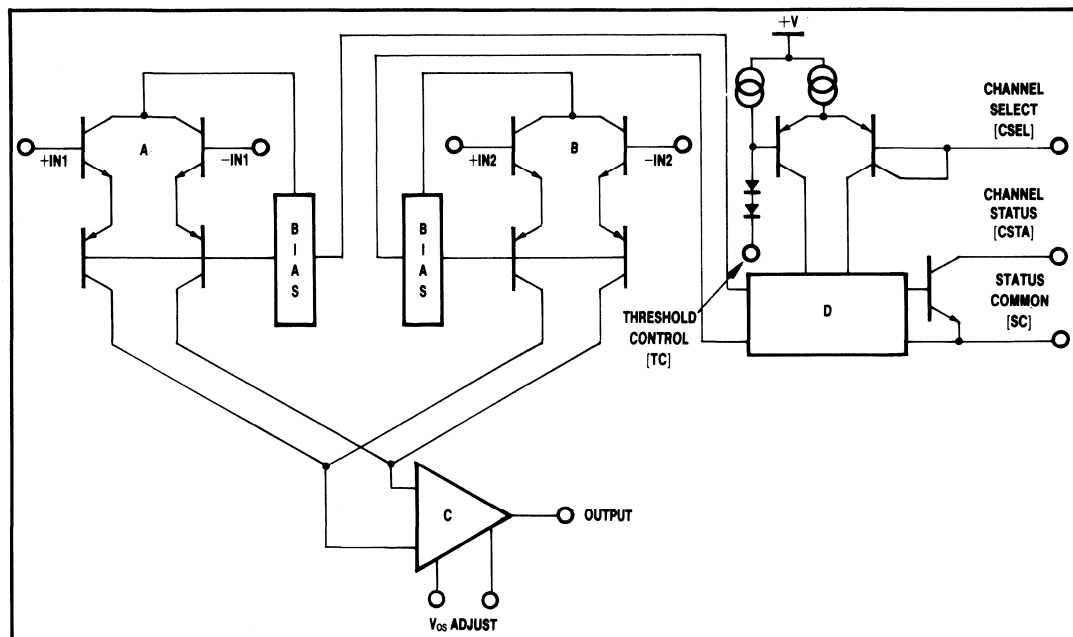

FIGURE 1. OPA 201 Simplified Schematic.
A simplified schematic of the OPA201 Swop Amp is shown in Figure 1. The circuit has four main parts: (A) input stage 1, (B) input stage 2, (C) active load and output amplifier, and (D) channel select circuit. The two precision differential input stages are identical, with offset and drift laser-trimmed for very-tight matching. The input stages share a balanced, high precision active load and external offset adjust pins, so offset trim affects both channels (see “Using the Swop Amp” section for independent trim techniques). The input stages also share a gain stage and complementary output stage. The biasing circuits for the two input stages are well matched, so the characteristics of the two amplifiers are very nearly identical.